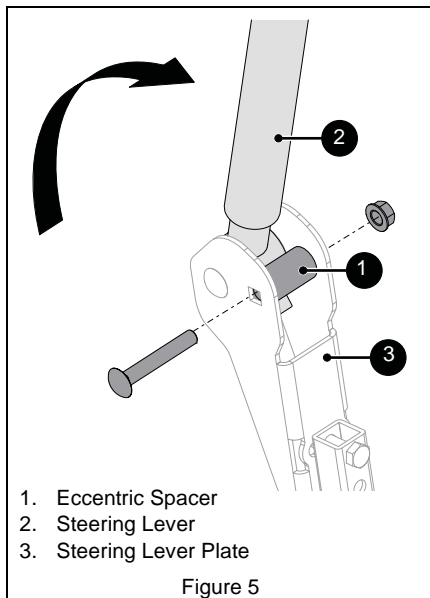

Figure 5
6. Rotate steering levers to operating position and install eccentric spacer between steering lever plates. Secure with hardware. See Figure 5.